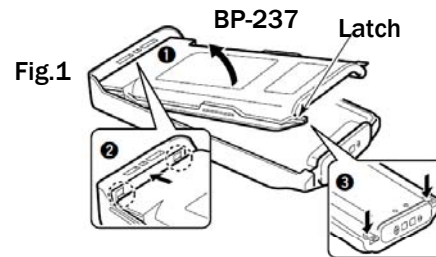

Fig.2
- ② Then, install 6 × AA (LR6) size alkaline batteries. (Fig.2)